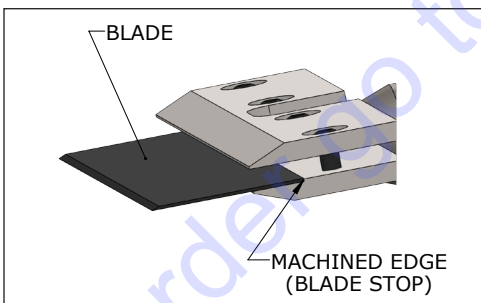

FIG. 5
3. Place blade into the cutting head and slide back until fully seated against the machined edge (Figure 5).